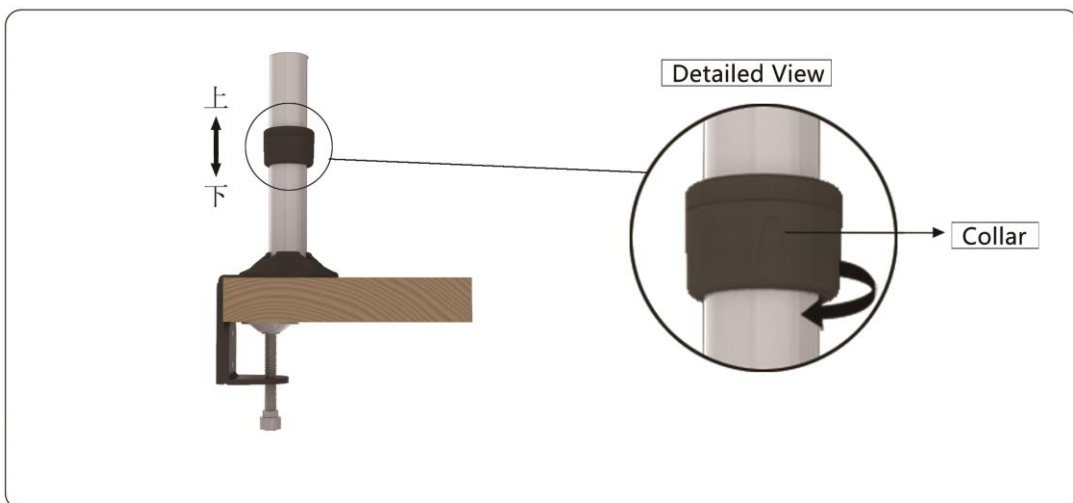

Figure 1-6
6. Loosen the collar and adjust to the desired height. Tighten the collar until it is firmly in place (**See Figure 1-6**).